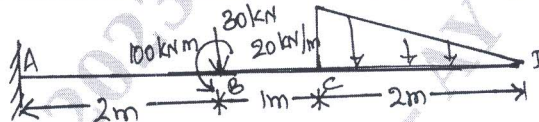

Fig.Q.6(b)
- b. Draw BMD and SFD for cantilever beam shown in Fig.Q.6(b). (10 Marks)